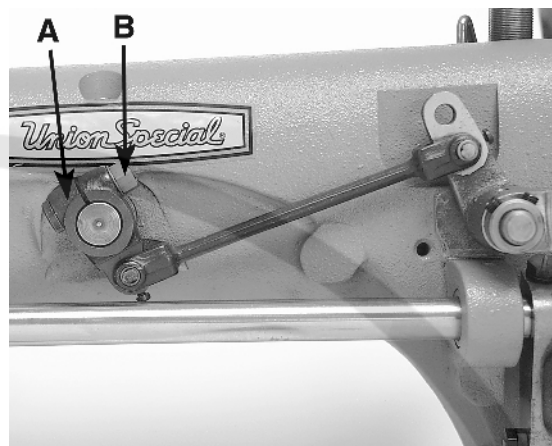

Fig. 6
Turn handwheel in the operating direction until the needle bar is at the bottom of its stroke. Loosen nut (B, Fig.6), and move upper feed lift driving lever (A) so that the teeth of the upper feed dog is $5/32"$ (7.9mm) for style 53700B and $3/16"$ to $13/64"$ (4.8 to 5.2mm) for style 53800B, above the top of